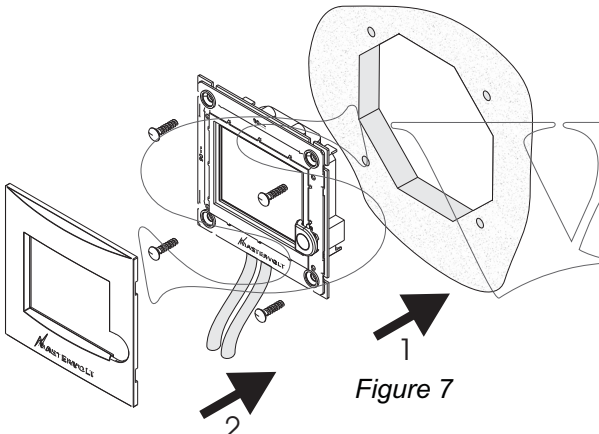

Figure 7
- Mount the MasterView Easy onto the panel (1) and then reattach the front (2), see figure 7.